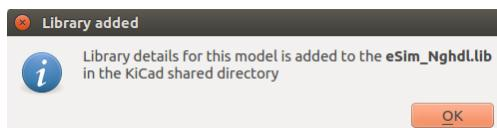

Figure 9.4: Uploading of digital model
2. Now browse and locate the VHDL file to upload. Select the VHDL file and click on the Upload button. This process will create Ngspice model and corresponding component drawing inside the KiCad library (eSim_Nghdl.lib) of the VHDL block to be used in mixed-signal simulations. An acknowledgement message will appear upon sucessful processing of the VHDL code as shown in Fig. 9.4.